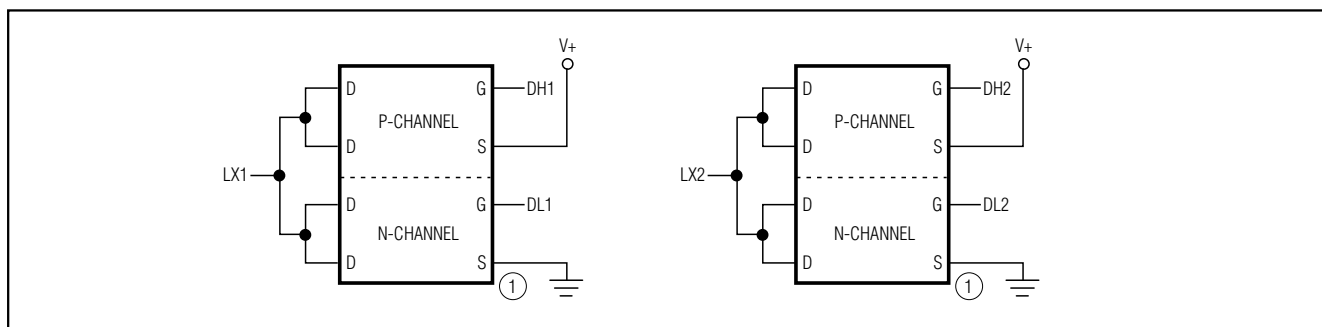

Figure 7. Dual Complementary MOSFET Design
- Two dual complementary MOSFETs (Figure 7)